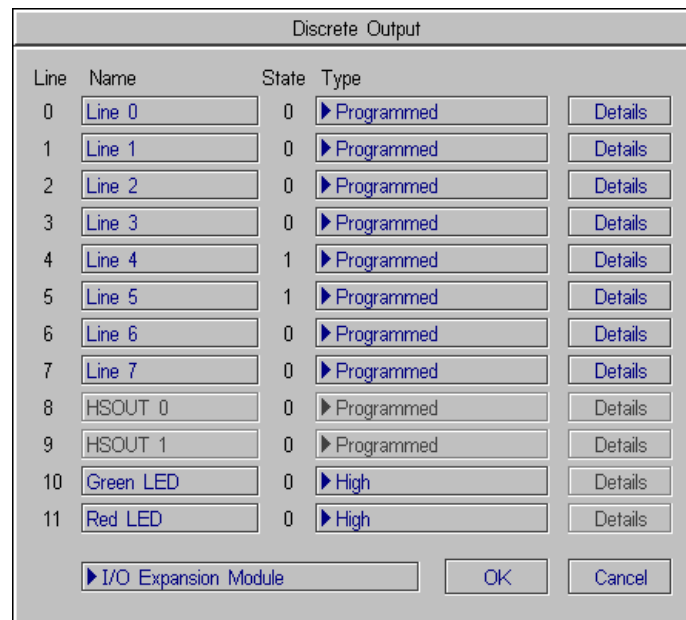

Figure D-0-4: Discrete Output dialog, I/O Expansion configuration
- 6 From the drop-down list beside the OK button, select **I/O Expansion Module**. The Discrete Output dialog will be automatically reconfigured to correspond to the I/O Expansion Module, as shown in Figure D-0-4.